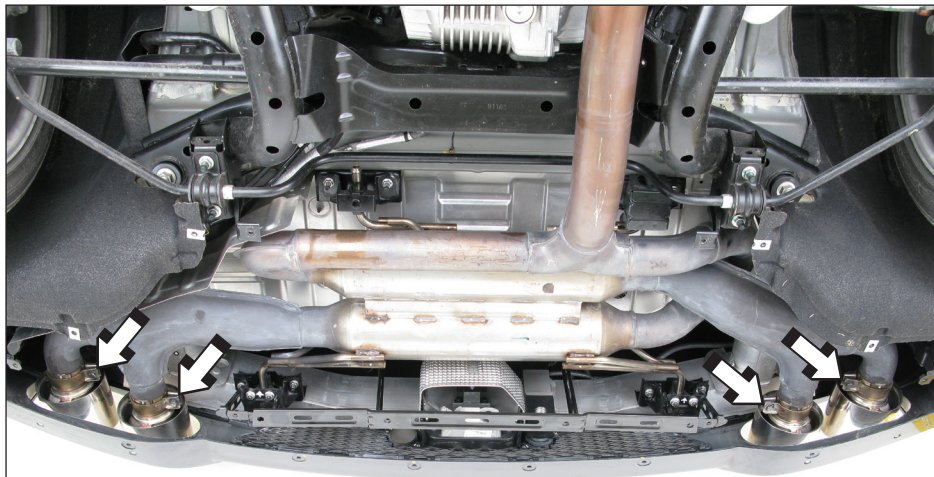

Figure 3
2. Loosen the four tail-pipe clamps and remove the tail-pipes off the vehicle (**Figure 3**).